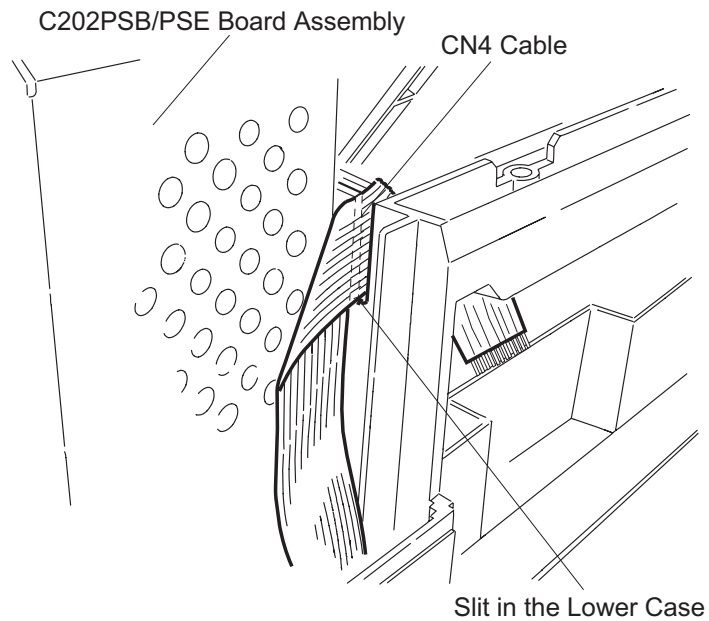

Figure 3-18. Removal of Cable for CN4
- ❑ When connecting the cable for the C202 PSB/PSE board to CN4 on the C202 MAIN board, insert the cable through the slot, as shown in Figure 3-18.